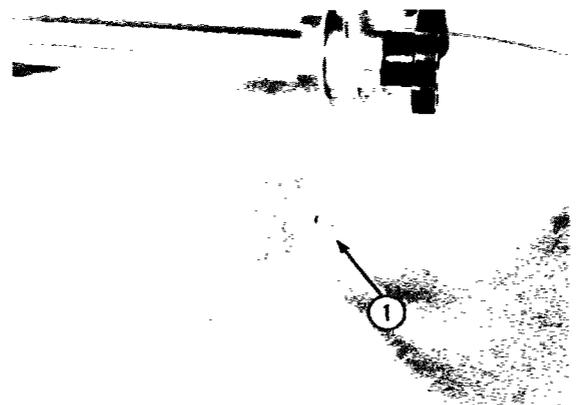

Fig. 3-8
- H. Rotate the knife shaft until the knives are straight up and down. Place a .050 inch Allen wrench in the bowl, under the knife (1, Fig. 3-8).